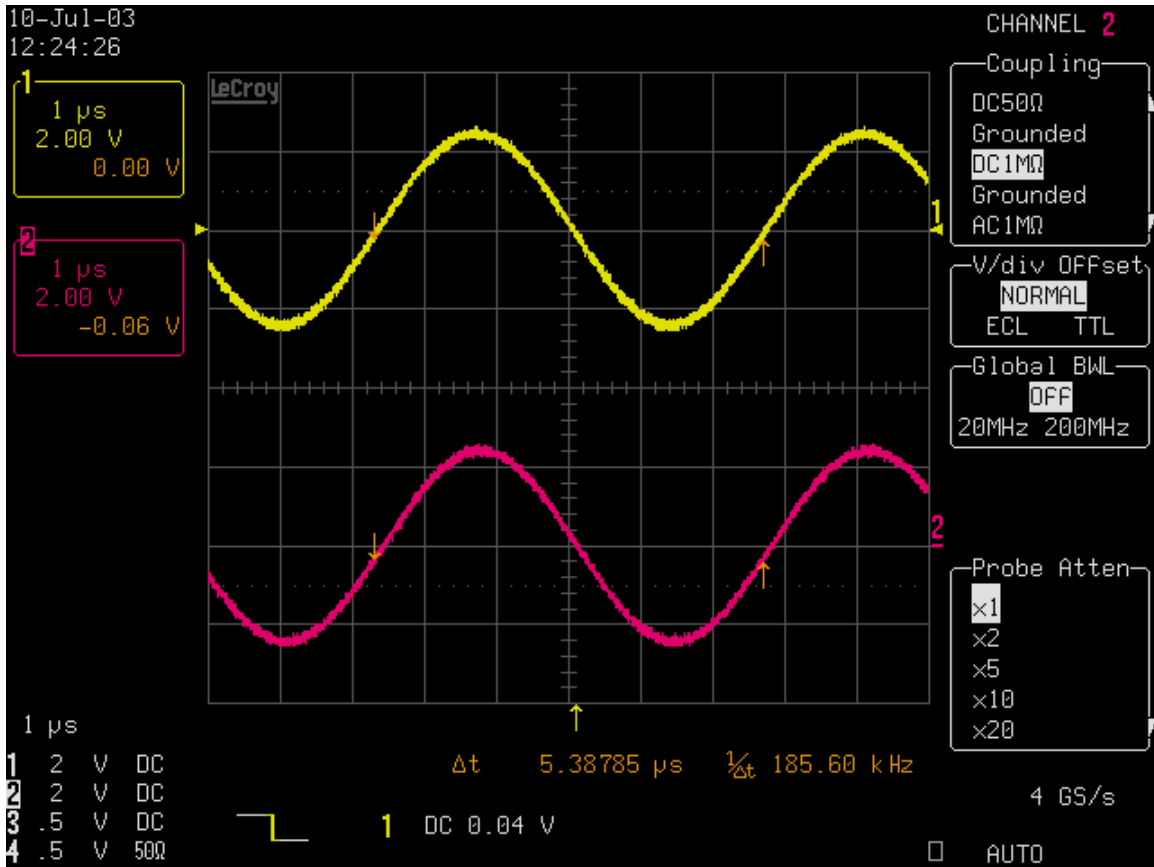

Figure 14. DAC 1 (top trace) and DAC 2 (bottom trace) Outputs when Continuous AC Testing is Selected with the RTB1616 Installed.
The functionality of DAC 1 (AWG) and DAC 2 (Y) can also be checked with the RTB1616. Simply click the Continuous button in the AC TEST panel. While the AC test is running, monitor the DAC 1 and DAC 2 outputs with an oscilloscope. Each should show a sine wave of with an amplitude of  $\pm 2.5$  V and a frequency of approximately 185.6 kHz (see Figure 14).